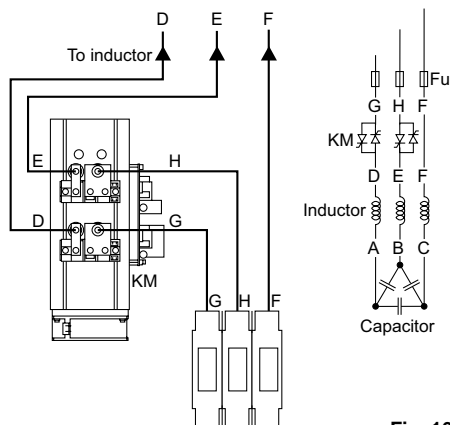

Fig. 16
- single-step line disconnection (Fig. 16).